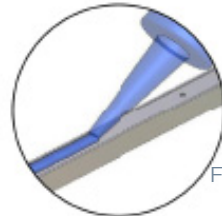
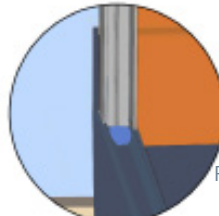

FIG.7
FIG.8
- Clean underside of wall channel with a dry rag before running a thick bead (be very liberal to allow overflow and proper adhesion) of silicone in a continuous line down the entire length of the back of the wall channel (FIG 7) and in the junction between the bottom of the wall channel and glass recess (FIG 8).